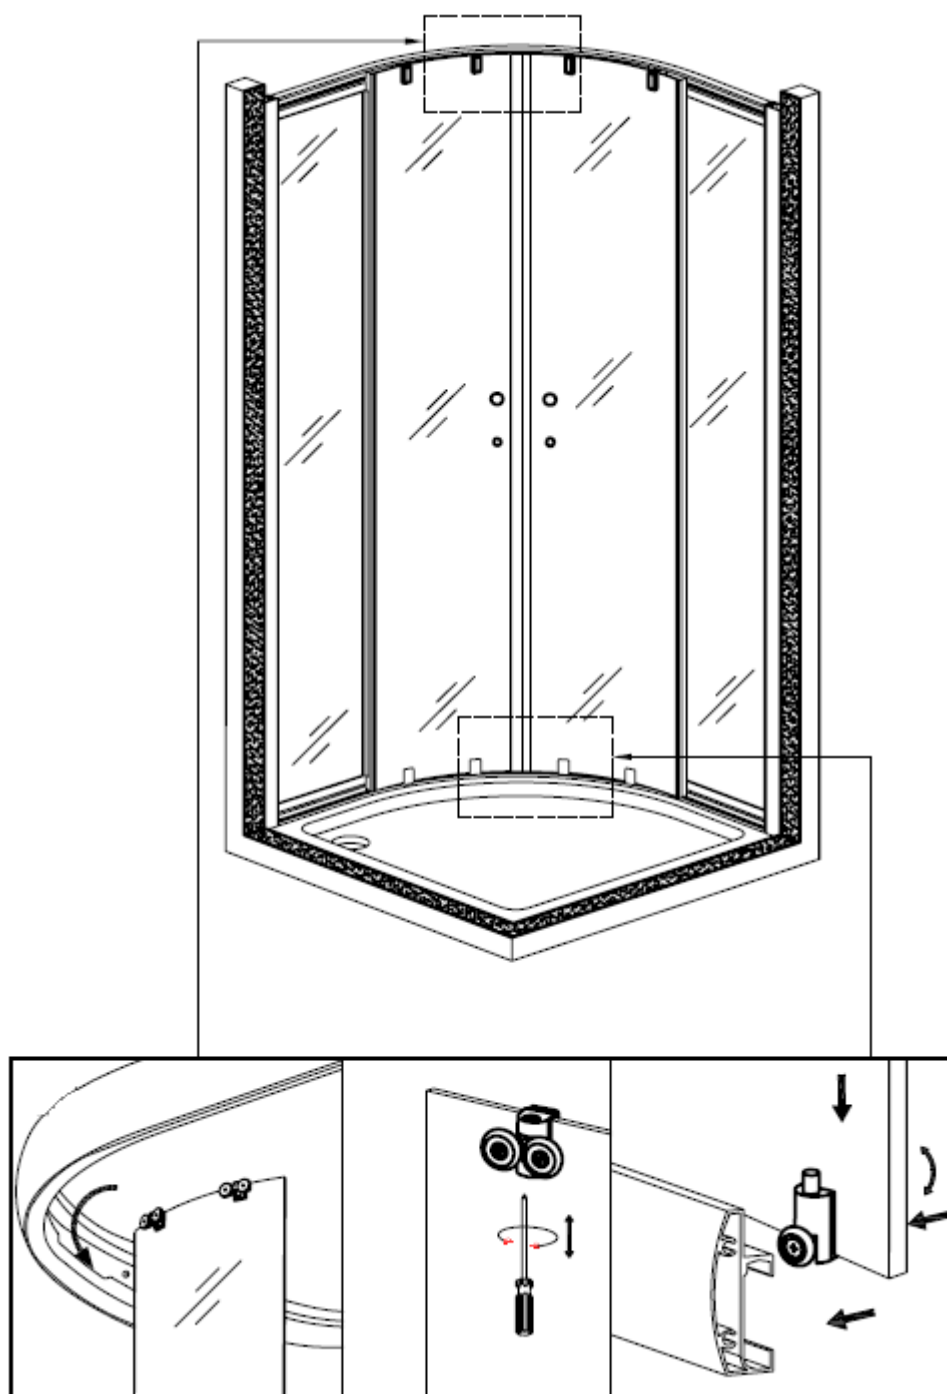

Figure 13
13. Hang the top double roller into the top rail and clip the bottom single roller into the bottom rail, as shown in figure 13.